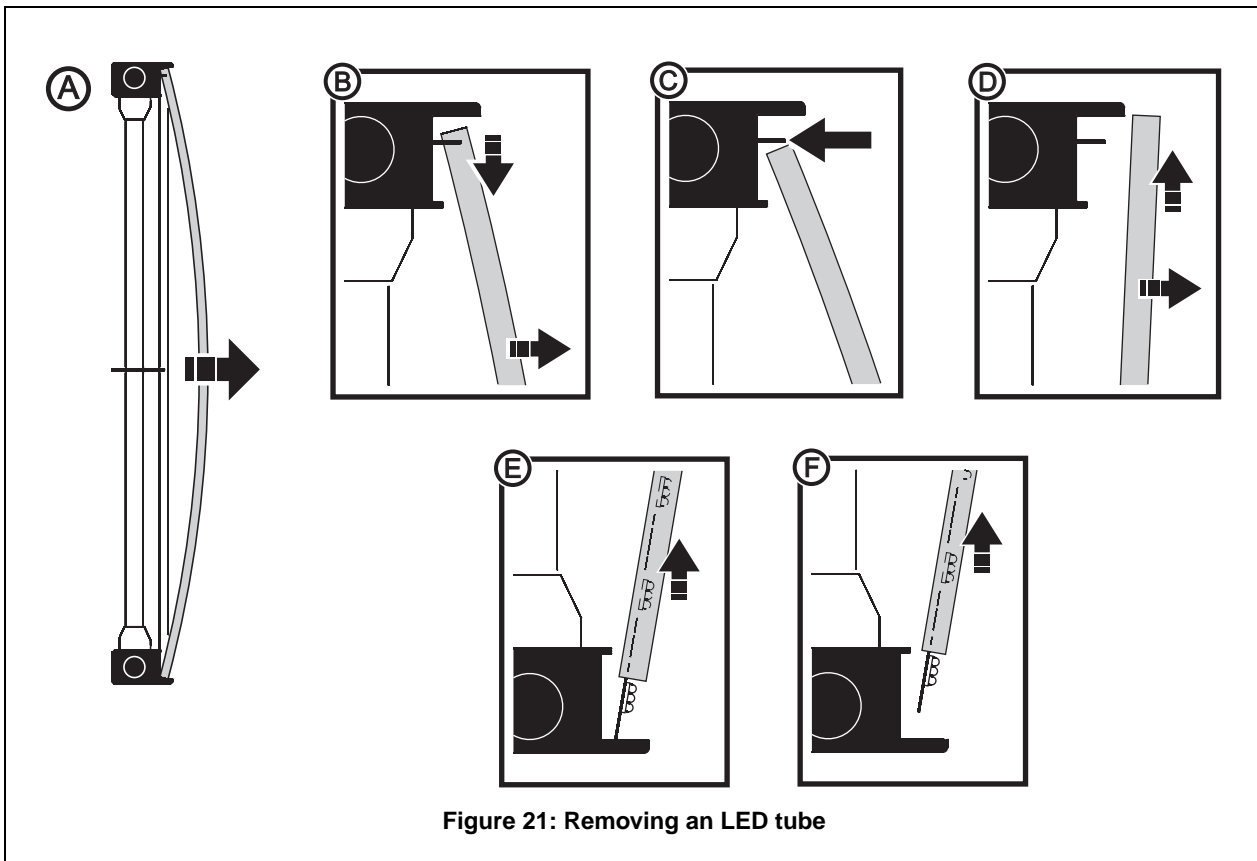

Figure 21: Removing an LED tube
3. See Figure 21. When the tube is released from all brackets, bend it outwards at the center (A and B) until the top of the tube is clear of the retaining bracket (C).
4. Pull the top of the tube forward (D) just enough for the tube to clear the retaining bracket. Do not pull the tube further forward than is necessary.
5. Lift the tube upwards (E), holding the PCB at the bottom of the tube so that it is unplugged from the base as the tube is lifted (F). Be careful not to damage the connector terminals on the PCBs while handling.
2. Bend the center of each tube outwards as shown at (A) in Figure 21 until the top of the tube can pass under the retaining bracket (C). Slide the top of the tube under the retaining bracket.